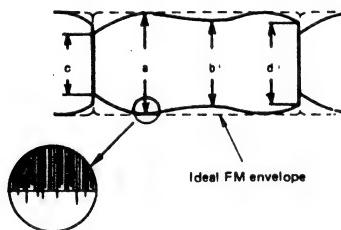

Fig. 2-54 FM waveform (max. output)
- When the maximum video FM waveform, confirm the audio FM waveform (Fig. 2-54) obtained that: